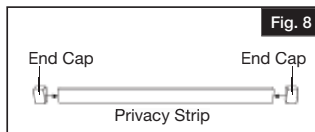

Fig. 8
- Place privacy strip end caps onto ends of privacy strips (Fig. 8).